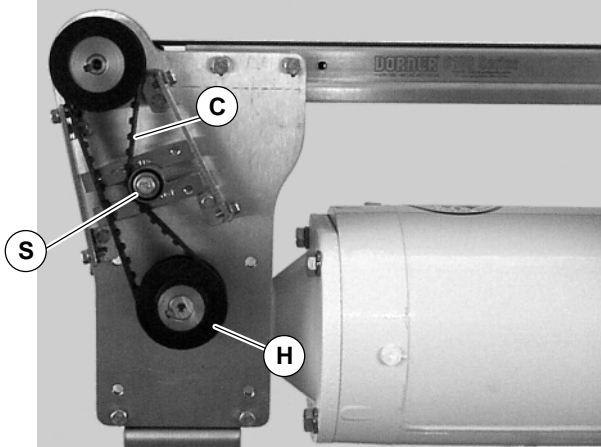

Figure 21
2. Loosen tensioner (S of Figure 21).
NOTE: If drive pulley (H of Figure 21) is replaced, wrap timing belt around drive pulley and complete step 3.